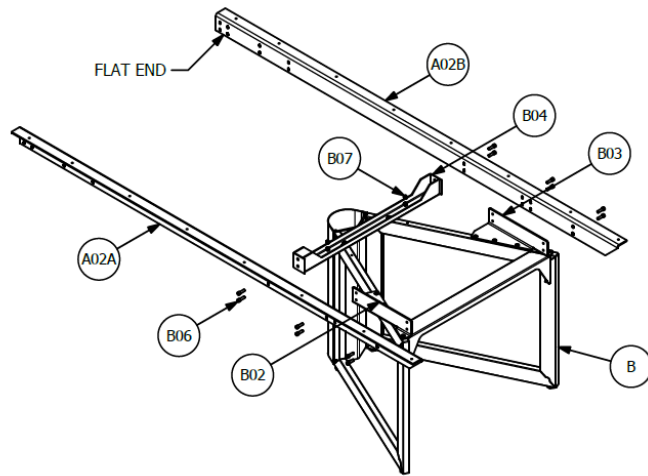

FIG 06: TABLE RAILS TO END BASES
2. At the chamfered end of each rail pair loosely assemble End Bases (B) via Mounts (B02 and B03) using Fastener (B06), 8 places each base. See Figure 06.
3. If the bases you have are equipped with Brace (B04) use Fastener (B06) and Hex Nut (B07) to loosely secure it to the rails, 4 places each brace. See Figure 06.